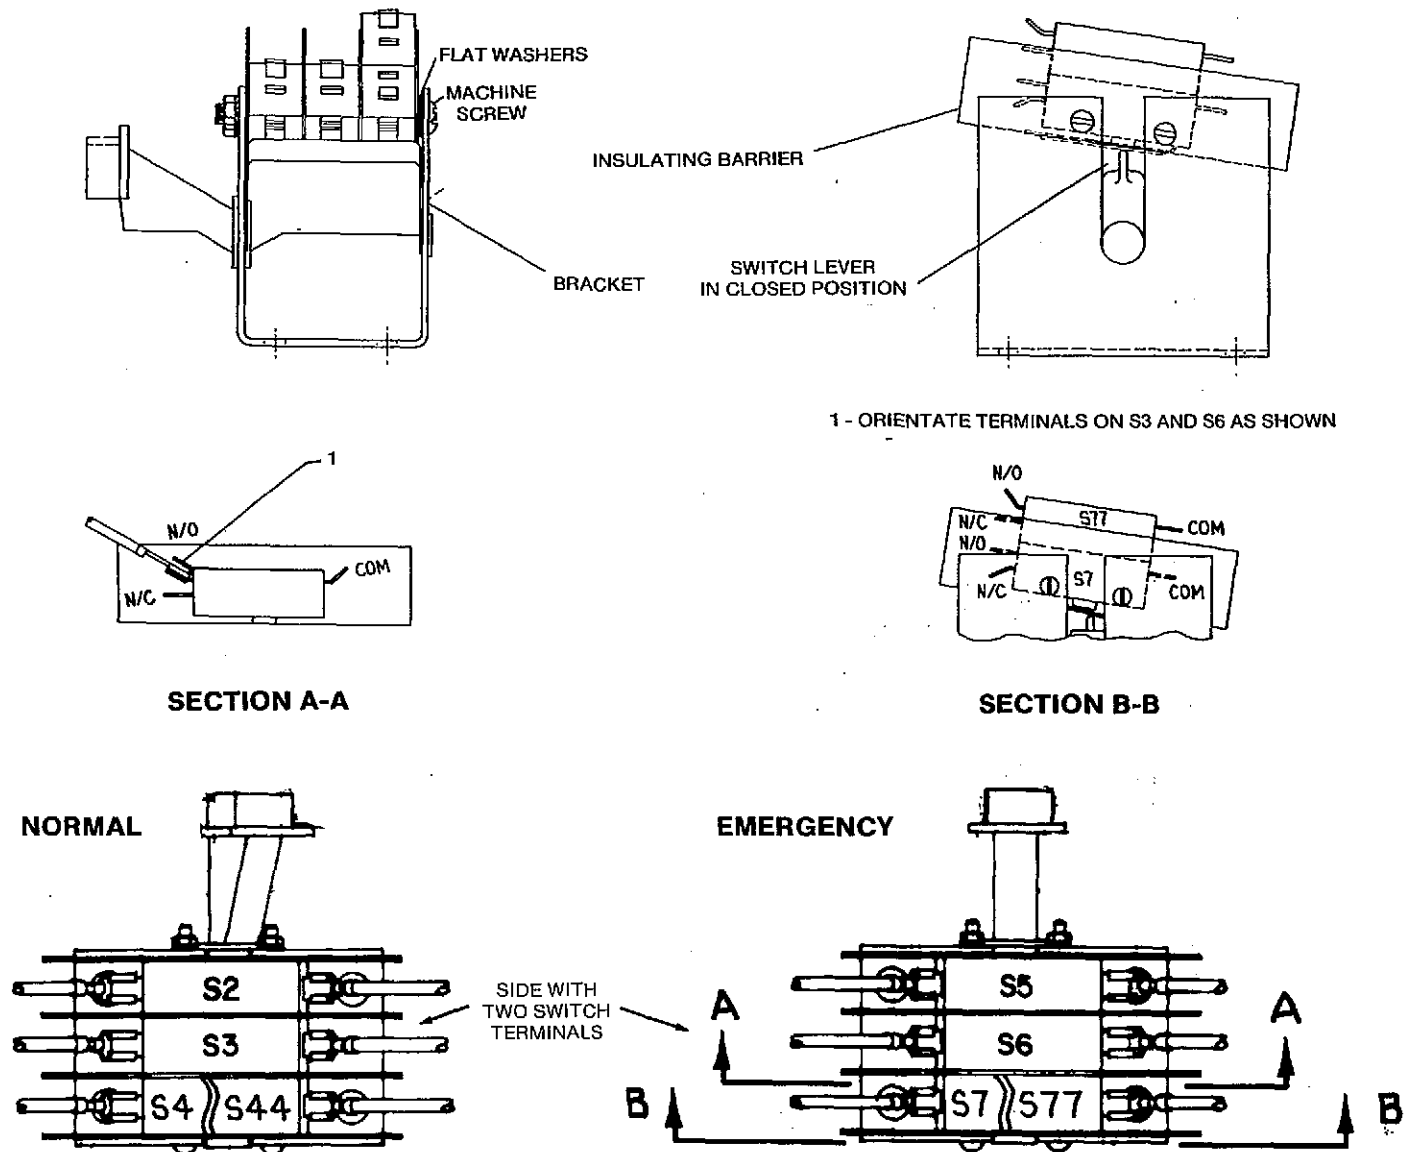

FIGURE 30. AUXILIARY SWITCHES
4. Remove the control wiring leads from the auxiliary switch terminals (see Figure 30).
7. Remove the round head machine screws, flat washers, and nuts that secure the auxiliary switches to the bracket (see Figure 30); and lift out the four auxiliary switches, insulating barriers, and switch lever.
1. Place the auxiliary switch lever in the bracket as shown in Figure 30.
2. Install the flat washers (4), insulating barriers (4), and auxiliary switches (3) in the bracket; and secure with round head machine screws (2) and nuts (2). Note that each switch must be assembled so the side with two terminals faces inward (see Figure 30) when the auxiliary switch assembly is installed.
4. Install control wiring leads on the corresponding switch terminals. Leads are marked with the terminal numbers (S2/N0, S5/NC, S7/C, etc.) for identification. Refer to Figure 30 for identification of auxiliary switch terminals.
5. Place the plug bracket in position on the base and secure with round head machine screws (4). Tighten to 25 to 30 in-lbs (2.8 to 3.4 N•m) torque.
6. Place red plastic switch cover in position and secure with machine screws (4) and flat washers (4). Tighten to 25 to 30 in-lbs (2.8 to 3.4 N•m) torque.